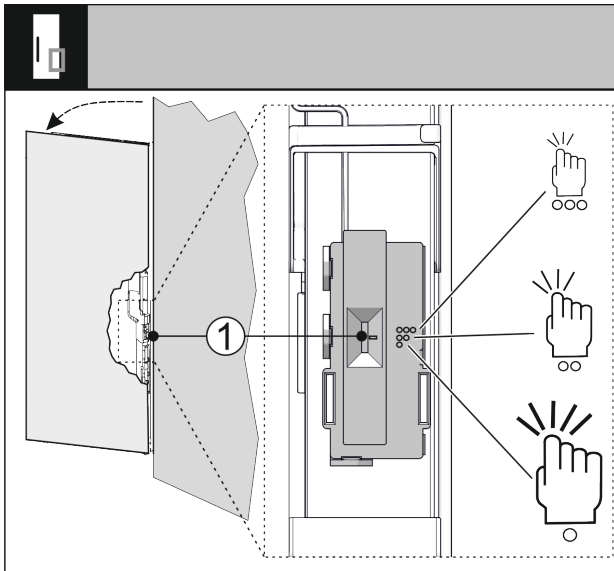

Fig. 32
You can use a switch Fig. 32 (1) to adjust the sensitivity of the knocking sensor. The switch is on the bottom third of the door on the hinge side.
- ▶ Move the switch Fig. 32 (1) to the required switch position.